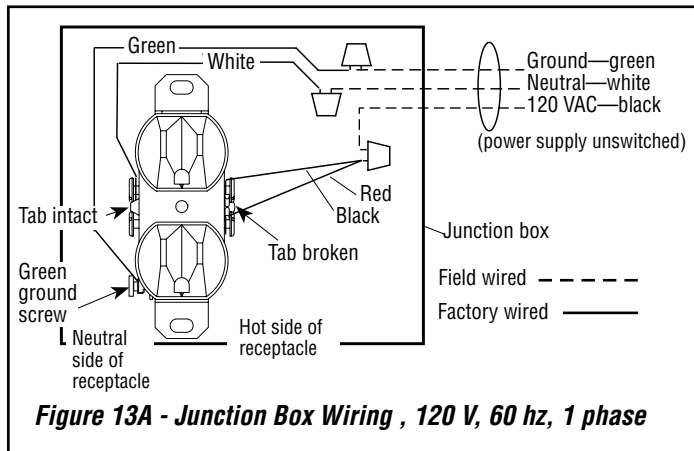

Figure 13A - Junction Box Wiring , 120 V, 60 Hz, 1 phase
4. Connect the black power supply wire to the power outlet black wire and red if included (red not included in all models). Connect the white power supply wire to the outlet common terminal (**Figure 13A**).
5. Connect the ground supply wire to the pigtail lead attached to the outlet's green ground screw (**Figure 13A**). Restrain the inlet power lead per NEC or local codes.